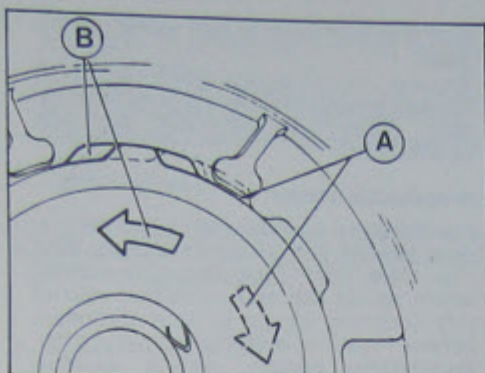

Fig. 18 B = Spring disengagement
- Accurately position spring container on pulley (see Fig. 18).